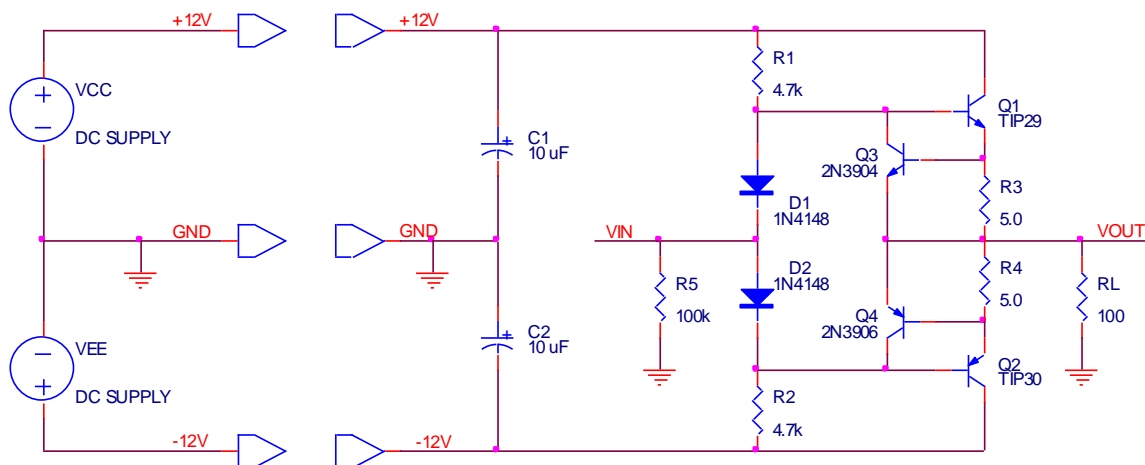
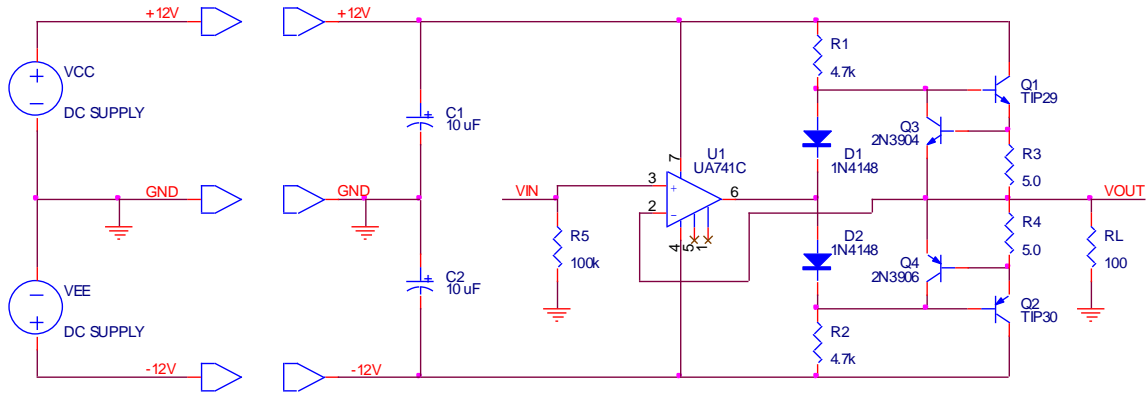

Figure E5.4a
Figure E5.4b
**Set-Up** Construct the circuit shown in Fig. E5.4a on a solderless breadboard using the following components:
Configure a dual DC power supply to implement the  $V_{CC} = +12.0$  V and  $V_{EE} = -12.0$  V DC power supply rails, as shown in Fig. E5.4a. Use three
More Set-Up Modify the circuit of Fig. E5.4a to that of Fig. E5.4b by adding an opamp and a feedback loop.